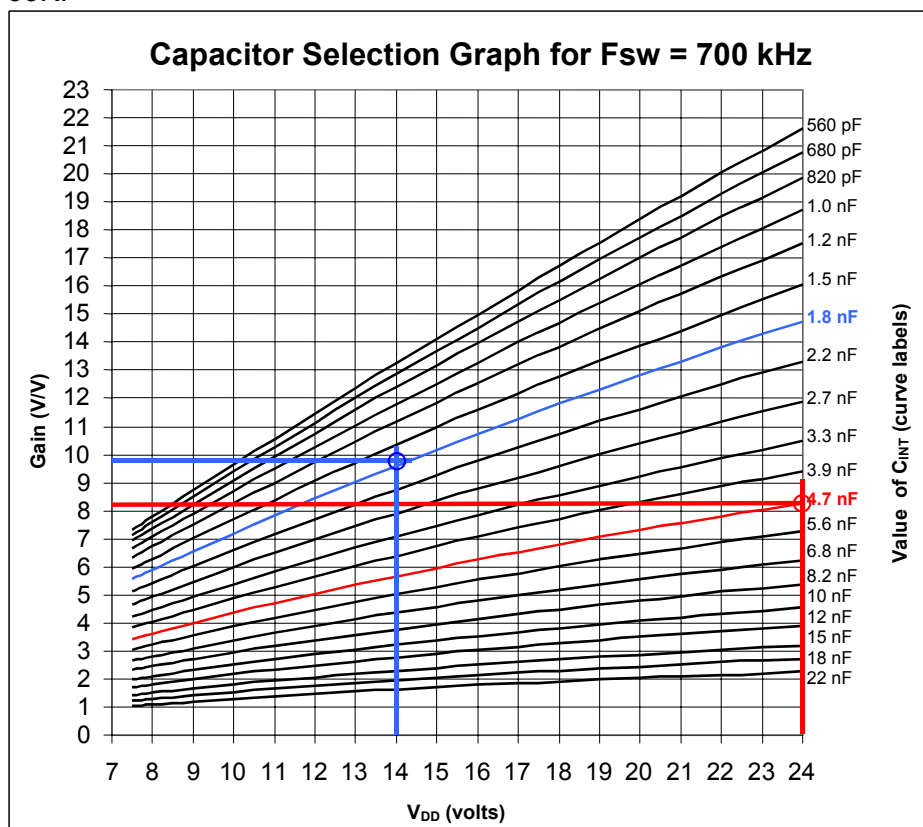

Figure 4 – Determining the Timing Capacitor, C_{INT}
The zero-signal switching frequency is a function of V_{DD} , the capacitor C_8 and the feedback resistor R_1 . Lower switching frequencies result in more inductor ripple, causing more quiescent output voltage ripple, increasing the output noise and distortion. Higher switching frequencies result in more power loss. The optimum frequency is between 600-700 kHz. Use the following steps, along with Figure 4, to select the appropriate timing capacitor, C_{INT} that will result in a recommended operating frequency of approximately 700 kHz:
3. The intersection of the V_{DD} and Gain lines in Figure 4 will determine the C_{INT} capacitor value.